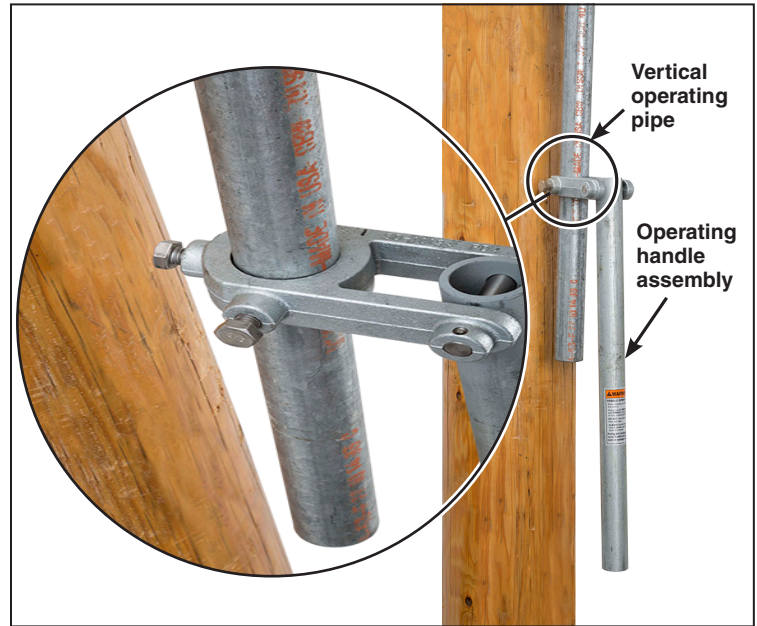

Figure 26. Fasten the operating handle assembly.
STEP 26. Back the piercing set screws out of the handle yoke and slide the handle assembly up the pipe until it is in the location indicated on the erection drawing. There should be 6 to 8 inches of operating pipe below the operating handle assembly. See Figures 26 and 27.